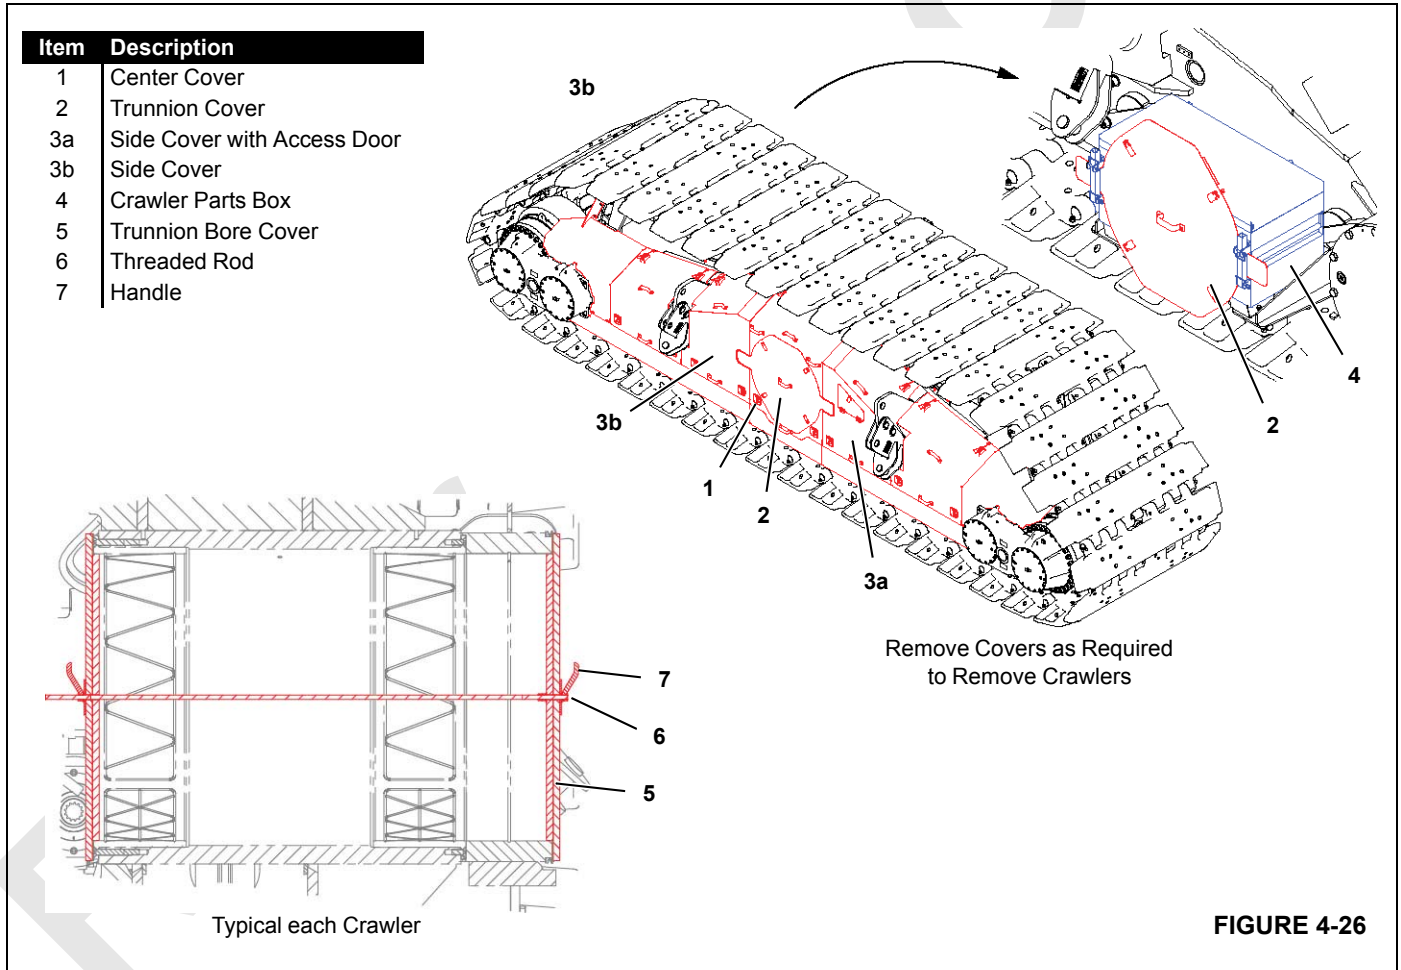

FIGURE 4-26
The outboard side of each crawler is equipped with covers (Figure 4-26) to protect components. During crawler installation it is necessary to remove covers:
- If the trunnion is shipped in the crawler, trunnion cover (2) on crawler parts box (4).
- If the trunnions are not shipped in the crawlers, remove trunnion bore cover (5, Figure 4-26) from both ends of each crawler.
18. Pin and lock lifting link (3, Figure 4-26, View A) to crawler tread (6) on the right end of the crawler.